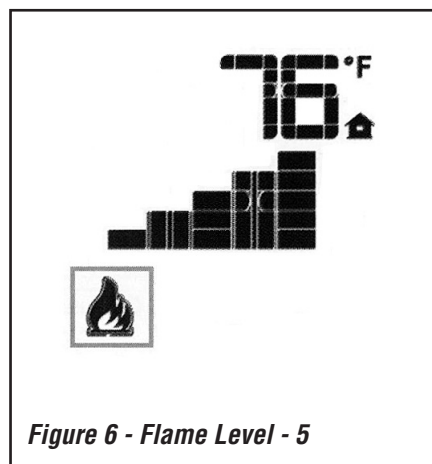

Figure 6 - Flame Level - 5
The system has six (6) flame levels. See **Figure 6** on **Page 10** for an example. With the system on, and the flame level at the maximum in the appliance, pressing the Down Arrow Key once will reduce the flame height by one step until the flame is turned OFF.